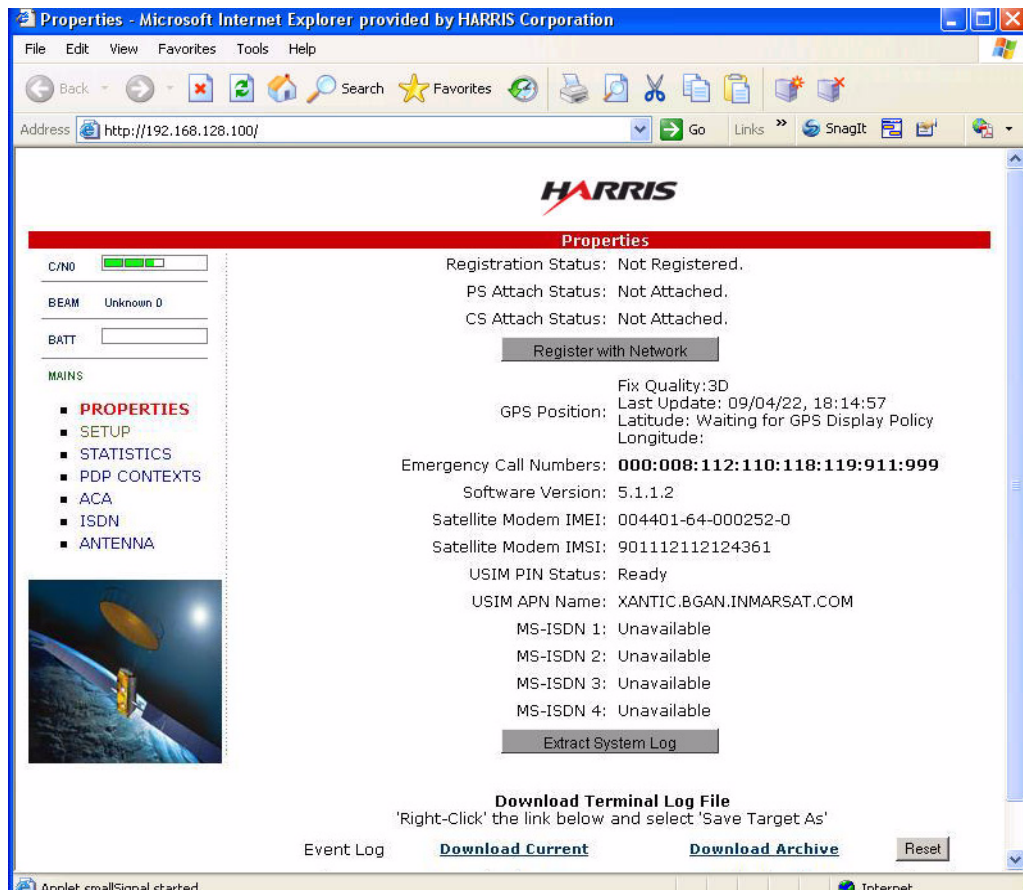

Figure 4-1. BGAN Terminal Properties
1. Open a web browser and type in the internal IP address of the BGAN terminal (default is <http://192.168.128.100>). The web interface opens up to the Properties page. Refer to Paragraph 2.6 if a dynamic IP address needs to be set up. See Figure 4-1.
- b. Type in the internal IP address of the BGAN terminal (for example, <http://192.168.128.100>). The web interface opens up to the Properties page. See Figure 4-1.
See Figure 4-1. The Properties page shows the current status of the BGAN terminal. The three status items in the top left-hand corner of the screen update automatically when the status of that item changes: